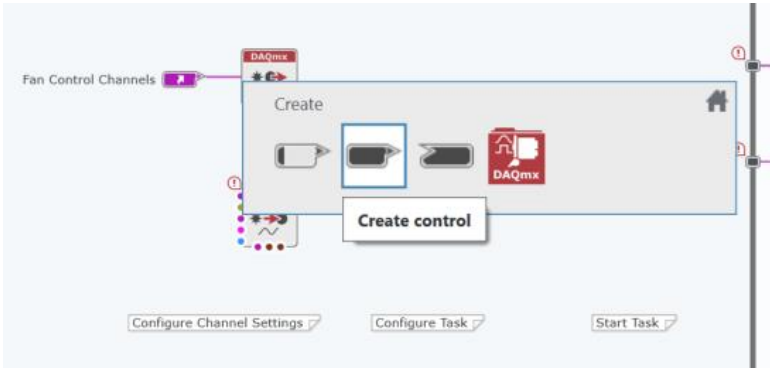

Figure 7-23 Controls allow the user to adjust inputs as run time. Every control will have a front panel element that corresponds to a block diagram element.
5. To allow the user to select which physical channels will be used for acquisition and generation, we must create front panel **controls**. To do so, right-click on the Physical Channels terminal on the left side of each VI and select **Create control**, as in Figure 7-23. Give the controls meaningful labels, like *Fan Control Channels* and *Vibration Input Channels*.